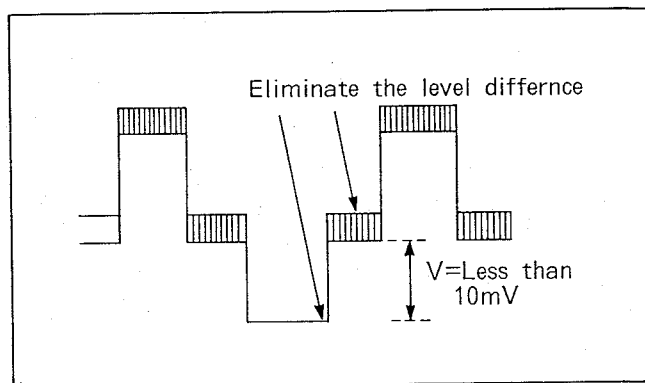

Fig. C22
6. Push "INC" or "DEC" key so that V level becomes less than 10mV as shown in Fig.C22.